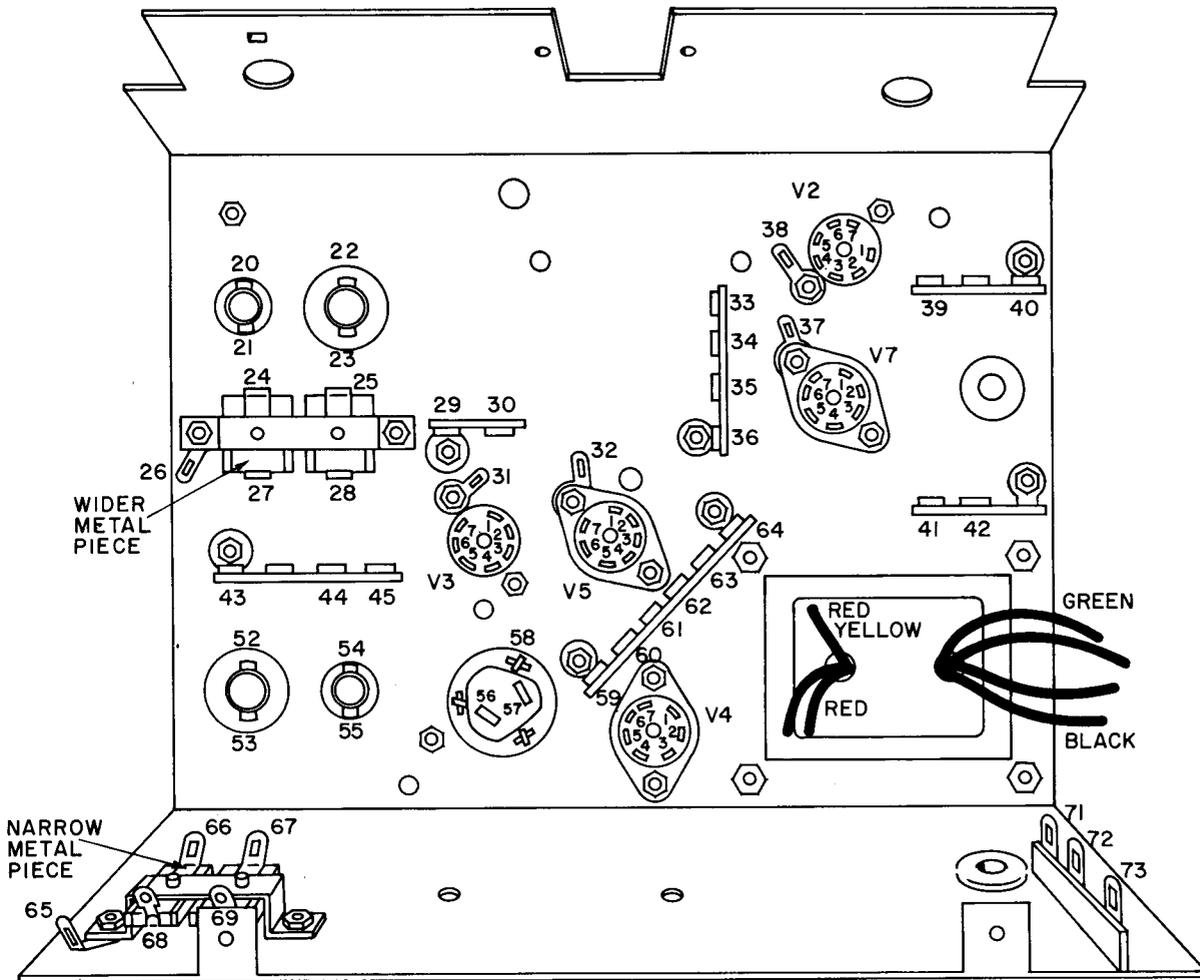

FIG. 7. Parts mounted on the bottom of the chassis.
- (↪) Shielded 7-pin miniature socket in hole H from top of chassis, with tube socket pins positioned as shown for V_2 in Fig. 7. Use 4-40 screws and nuts and No. 6 lockwashers in holes H1 and H2. Put a solder lug on the screw in hole H2 before putting on a lockwasher and nut.
- (↪) Shielded 7-pin miniature socket in hole R from the top of the chassis, with tube socket pins positioned as shown for V_3 in Fig. 7. Use 4-40 screws and nuts, and No. 6 lockwashers in holes R1 and R2, with a solder lug on the screw in hole R1.
- (↪) Unshielded 7-pin miniature socket in hole T from the bottom of the chassis, with the socket pins positioned as shown for V_5 in Fig. 7. Use 4-40 screws and nuts, and No. 6 lockwashers, and a solder lug on the screw in hole T1.
- (↪) Unshielded 7-pin miniature socket in hole K from the bottom of the chassis, with the socket pins positioned as for V_7 in Fig. 7. Use 4-40 screws and nuts and No. 6 lockwashers, and a solder lug on the screw in hole K1.
- (↪) Unshielded 7-pin miniature socket in hole CC from the bottom of the chassis, with the socket pins positioned as for V_4 in Fig. 7. Use 4-40 screws and nuts and No. 6 lockwashers.
- (✓) Power transformer on top of chassis over hole EE. First remove the four nuts and lockwashers from the assembly screws. Position the transformer so that its black and green leads are near the edge of the chassis, as in Fig. 7. Pass the transformer assembly screws through holes EE1, EE2, EE3, and EE4. Put on the lockwashers and the nuts you previously removed. Draw the nuts up tight.
- () Mounting wafer for electrolytic capacitor on top of chassis over hole BB. Position it as in Fig. 7 and detail drawing of Fig. 8. Insert a 6-32 screw through a two-lug terminal strip (terminals 84 and 85), then through hole BB2 from the top of the chassis. Put on a No. 6 lockwasher and a 6-32 nut. Insert a 6-32 screw through hole BB1 from the top of the chassis. Put one foot of a 6-lug terminal strip (terminals 59 through 64) on this same screw on the bottom of the chassis, then a lockwasher and nut. Be sure the 6-lug strip is positioned as in Fig. 7.
- (✓) Insert the lugs of the electrolytic capacitor through the slots in the mounting wafer, with terminals 56 and 57 positioned as shown in Fig. 7. Using a pair of pliers, twist each of the capacitor mounting lugs a quarter of a turn to hold the capacitor firmly in the mounting wafer.
This completes the mounting of hardware at this time. Check your chassis to see that it has the parts mounted and positioned as shown in Fig. 7.